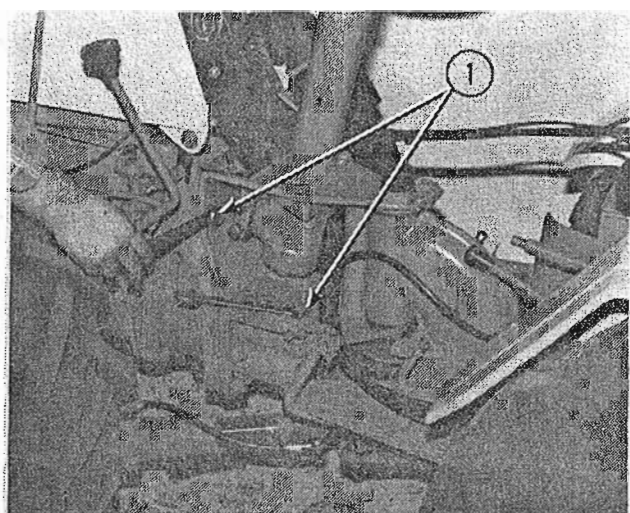

FIG. 8
- (9) Remove the (2) 14 x 35mm. bolts threaded into the transmission housing and the (4) 12 x 30mm. bolts threaded into the lower drive shaft support casting. (1, Fig. 8)